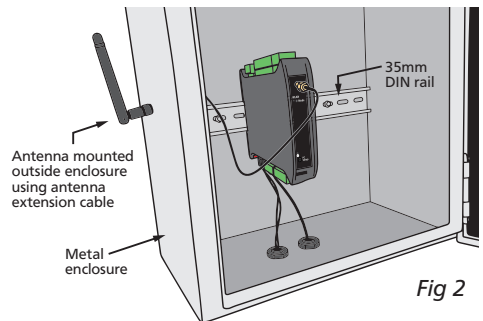

Fig 2
### B - Metal Enclosure (Fig 2)
- A** Installing the unit in an earthed **Metal Enclosure** (as in Fig 2). This is particularly useful if the control box is mounted close to large power switching devices like contactors. Every switching cycle there is a possibility of generating a large amount of near field radiated noise. The **Metal Enclosure**, acting as a faraday cage, will shunt this radiation to ground and away from the unit.